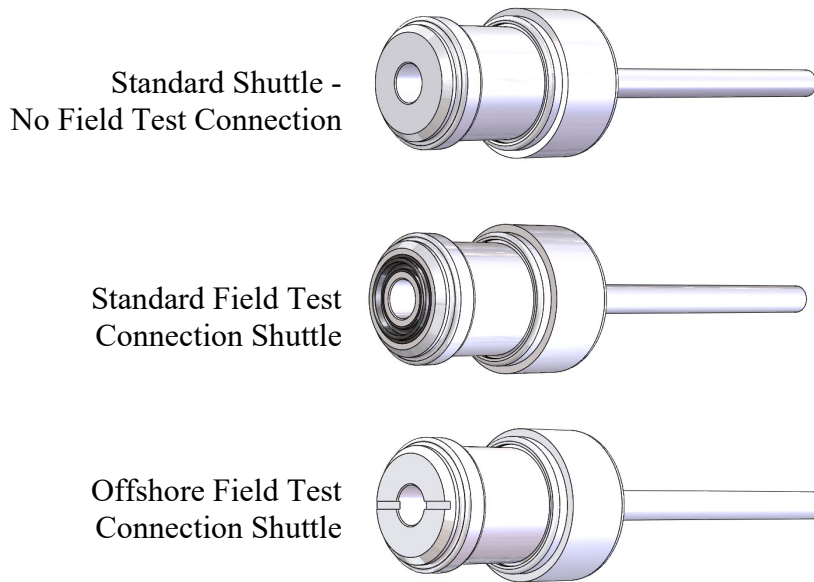

Figure 35: Different Types of Shuttles
- a) There are 3 different shuttles. See Figure 35. The first option is the standard shuttle, which is used when there is no field test connection present.